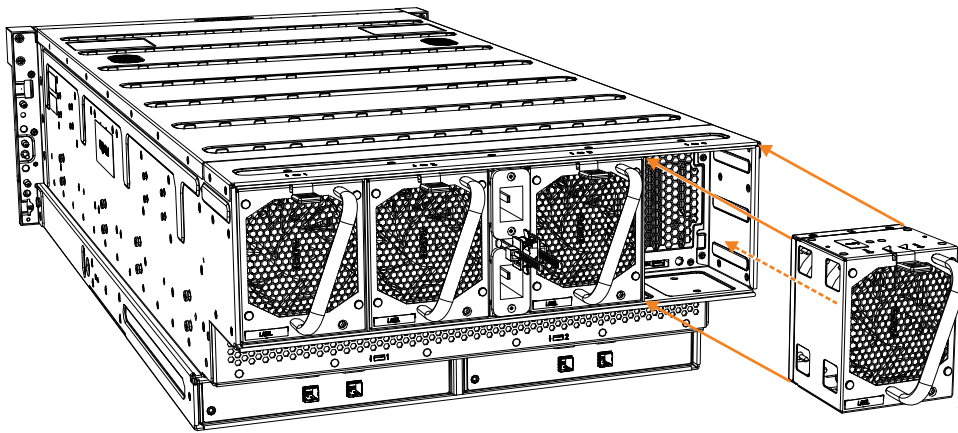

Figure 102. Remove fan module
3. Use the handle to pull the fan module out of the expansion enclosure chassis, as shown in Figure 102.